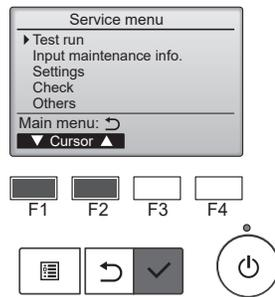

Fig. 6-3
- ③ Select "Test run" with the or button, and press the button. (Fig. 6-3)